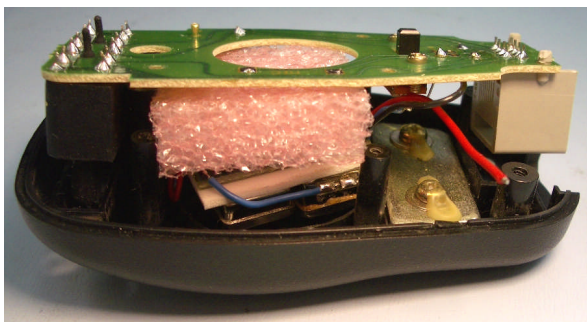

Figure 5.
10. As shown in Fig. 5, place the supplied foam between the OBP and the MH-31 PCB. Bring out the red wire as shown.